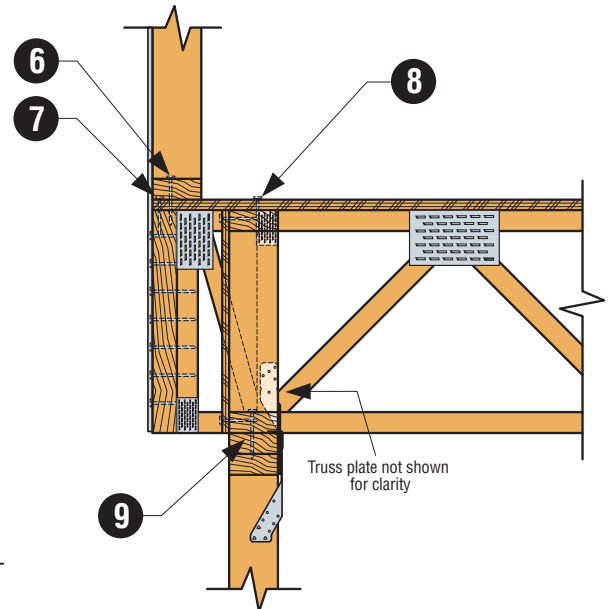

Figure 3 – Section View
- This technical bulletin only provides connection solutions to create a continuous load path at the cantilevered floor section. As noted in Connection ❹ of Figure 3, the Designer must choose the connections from the top plate to stud, stud to sill plate, and sill plate to foundation.
CHOOSE SHEAR CONNECTIONS: 6 - 9 of Figure 3 on page 4 refer to the lateral load path and Table 4.
Figure 3, Connection 6 shows that the bottom-plate fasteners need to be specified by the Designer to transfer the 250 plf lateral load from the shearwall in the upper story.
Figure 3, Connection 7 shows that the floor sheathing boundary fasteners need to be specified by the Designer to transfer the 70 plf lateral load from the floor level diaphragm shear. (This is typically a general note that applies to all floor boundary edges at the specified level and can be found in the G.S.N. or Floor Framing Notes.)
Figure 3, Connection 8 shows that the fasteners used to transfer shear to the blocking must have the capacity to transfer the lateral load from the floor diaphragm only at non-shearwall locations, but transfer the lateral load of both the shearwall and floor diaphragm – 320 plf in this example – at shearwall locations and the fastener size and spacing should be specified by the Designer.